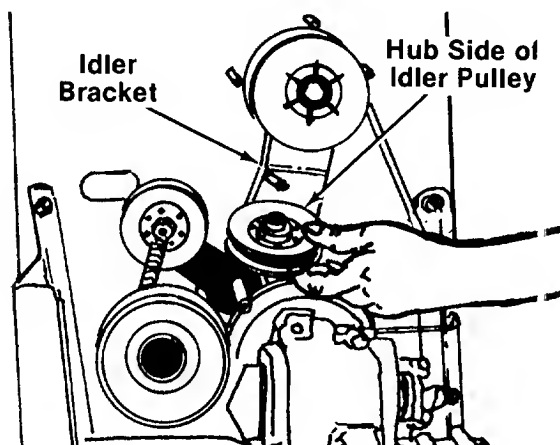

FIGURE 36.
12. Upon reassembly of idler pulley, be certain the hub side of idler goes against the idler bracket. See figure 36.